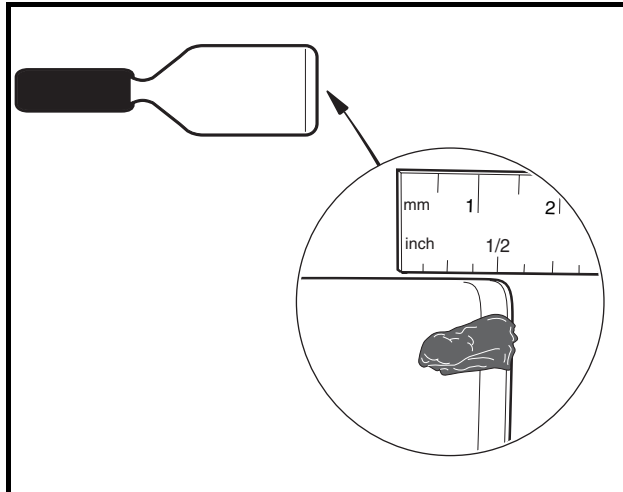

Figure 16-14 Grease on Putty Knife
- 2.1. Squeeze approximately 1/2 inch (1.3 cm) of moly-teflon lubricant (CCI P/N 102243403) from tube onto a putty knife as shown (**Figure 16-14, Page 16-13**).